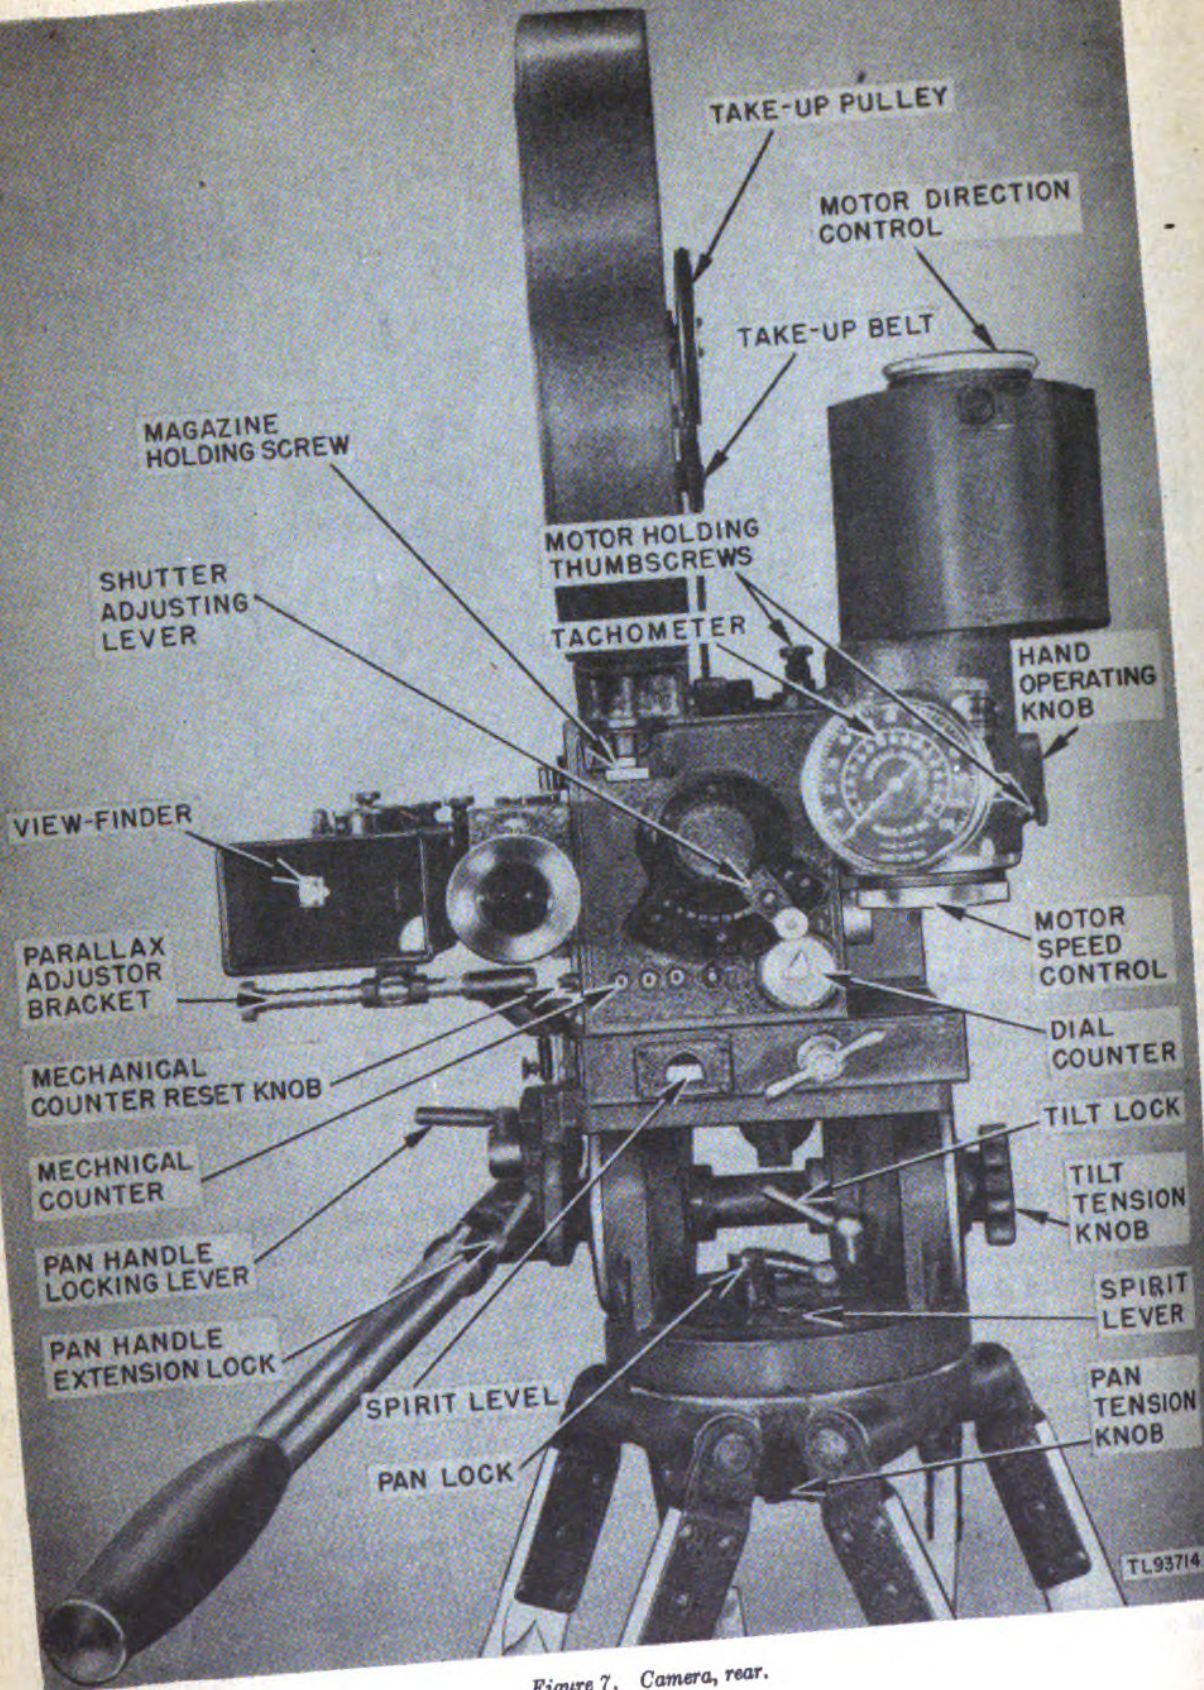
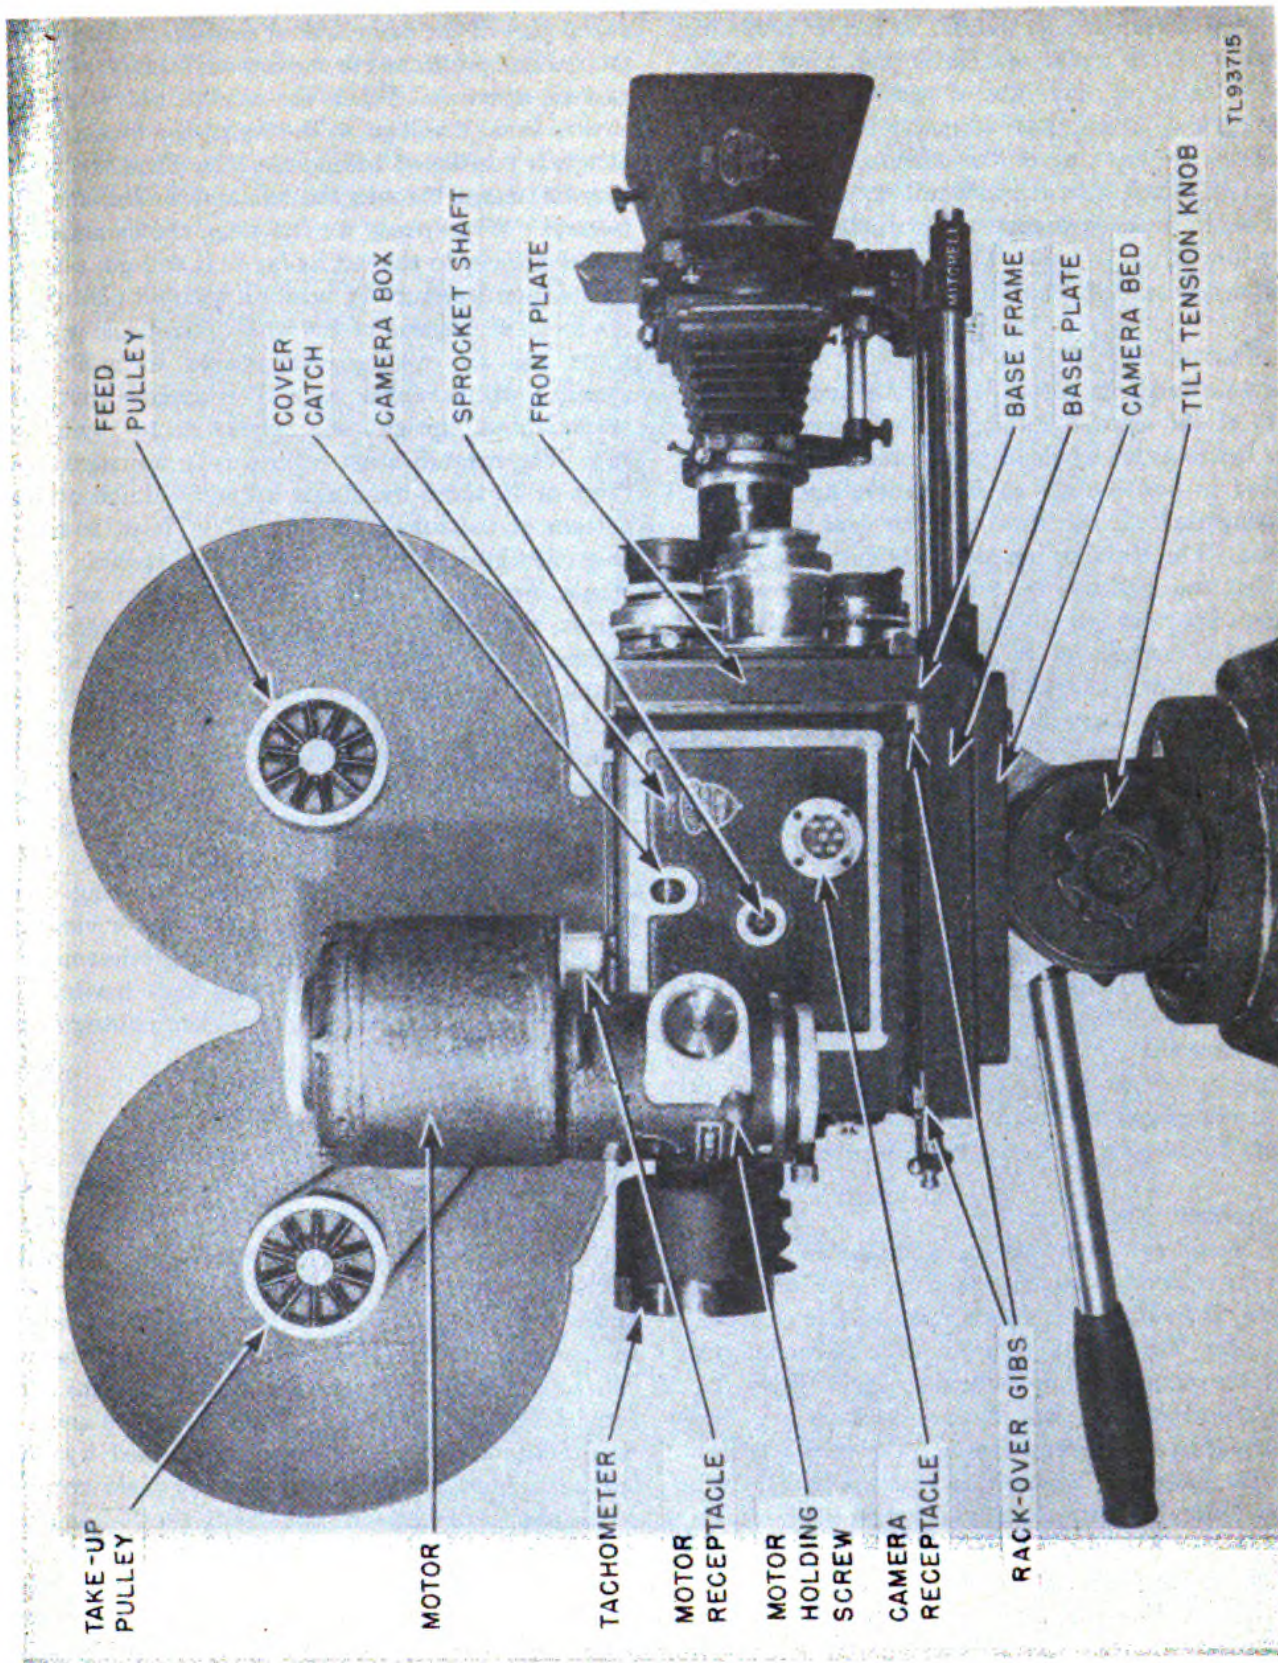

Figure 7. Camera, rear.
Figure 8. Camera, right side.
The camera frame is made in two sections, the base frame and the camera box (fig. 8) each of which is cast in one piece from aluminum alloy. The base frame is an L-shaped casting consisting of the base plate and the front plate. Mounted on the front plate are the lens turret and the shutter. The base plate contains the rack-over gibs and mechanism for racking the camera box from side to side. The camera box may be shifted from the photographing position (left) to the focusing position (right) by operating a handle and release button (fig. 7) on the rear of the base plate. The camera box is divided longitudinally into two compartments.
a. The 12-volt d-c motor (figs. 7 and 8) mounts vertically on the camera box, coupling with the main drive shaft, and is secured by two thumbcrews. It can be adjusted to operate forward or backward and will drive the camera at any speed up to 24 frames per second. The camera cannot be operated faster as the fiber gears and plain bearings will not stand the strain of high-speed operation. A tachometer indicates the frames per second and feet per minute at which the motor is running. The motor automatically takes care of variations in current and load so that constant camera speed is assured. A hand-operating knob on the side of the motor permits the motor to be turned by hand for convenience in threading.
b. Two drive shafts project through openings in the right-hand camera box cover. (See fig. 8.) One, the main drive shaft, to which the motor is attached, operates the camera at the rate of one frame per turn. The other, the sprocket drive shaft, operates the camera at the rate of eight frames per turn and is intended for use with a hand crank. The hand crank is to be used only in emergencies, or for rewinding film, as there is no governor in the camera mechanism to regulate speed.
The rotary dissolving shutter is designed for hand-operated dissolves and fades. It has a maximum opening of 170° , and can be closed down to any smaller angle at any rate of speed. The shutter opening scale and shutter adjusting lever (fig. 7) are mounted on the rear of the camera. The shutter is synchronized with the intermittent movement so that when its open segment is in front of the aperture the film is at rest. The film moves while the opaque segment of the shutter covers the aperture.
12. Counters (fig. 7)
13. Spirit Level (fig. 7)